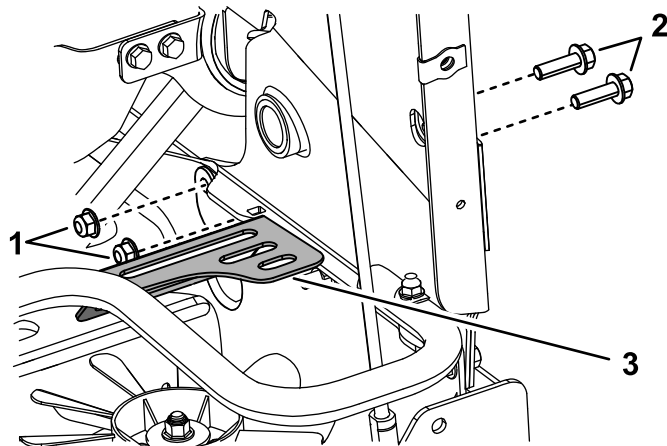

Figure 34
4. Thread-forming bolt (2)
15. Remove the 2 bolts and 2 nuts from the right side of the machine and use them to install fan guard (Figure 34). Torque the bolts to 37 to 45 N·m (27 to 33 ft-lb).